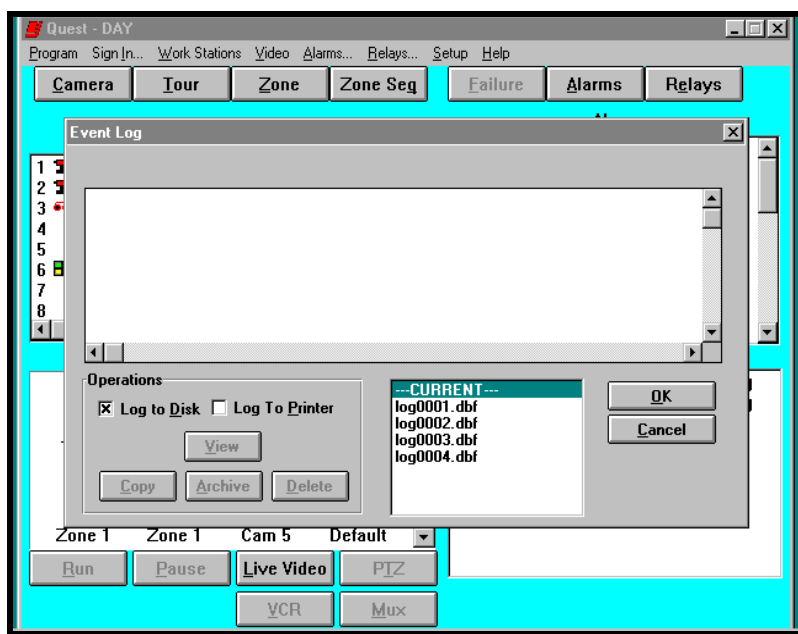

Figure 2-20. Archive Event Log
2. To Archive the current event log, click on the **Archive** button. See Figure 2-20.